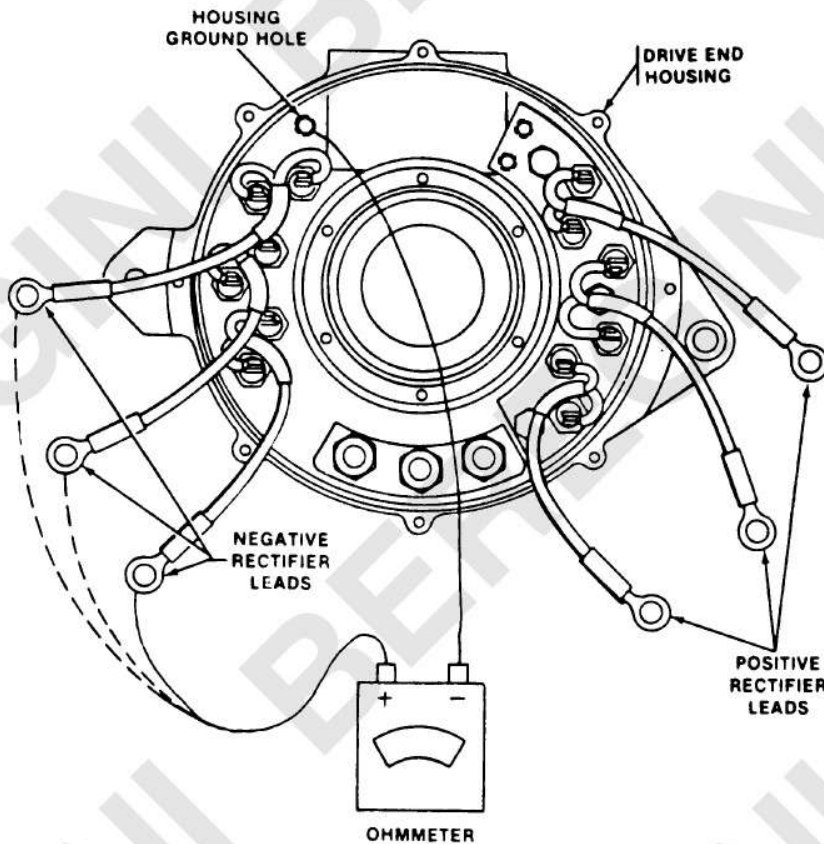

Figure 2-4. Shorted Negative Rectifier Test.
- Step 6. Check for shorted negative rectifiers. Connect ohmmeter to each of the three negative rectifier leads in accordance with figure 2-4.